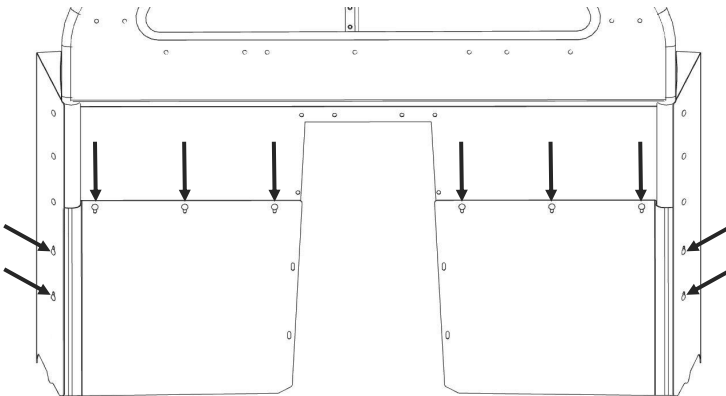

Figure 4
- B. Place the passenger seat protector [3SP5419-01P] into the vehicle and align the three holes at the top of the panel and the two holes along the outside of the panel with their respective holes in the partition and the mounting plate. The seat protectors fasten on the inside of the mounting plates. See Figure 4.
- C. Loosely install a carriage bolt [3X36] with whiz nut [3X16Z] into each of the (5) holes identified in the previous step. Install the fasteners such that the smooth head of the carriage bolt is facing towards the rear of the vehicle.